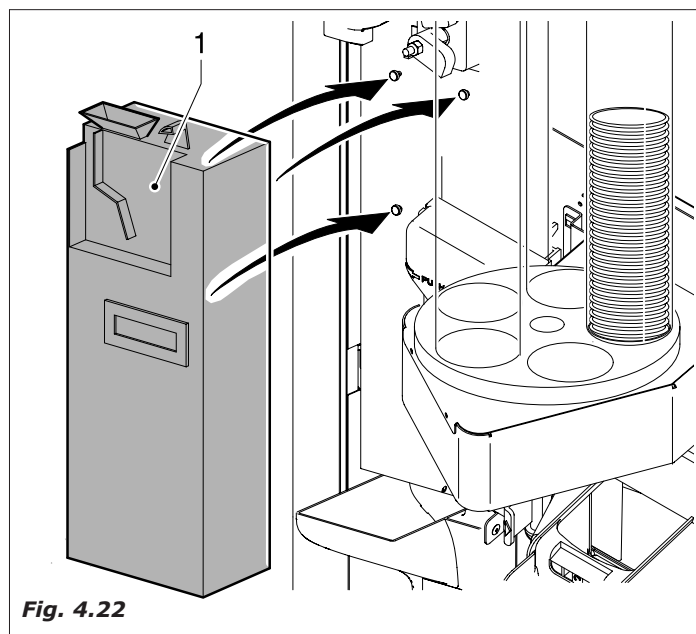

Fig. 4.22
- Connect the payment system (Fig.4.22) to the Master board.